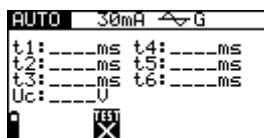

Figure 5.21: RCD autotest menu
Step 3 Follow the connection diagram shown in figure 5.21 to perform contact voltage measurement. Use the **Help** function if necessary.
Step 3 Follow the connection diagram shown in figure 5.21 (see the chapter 5.4.6 *Contact voltage*) to perform trip-out time measurement.
Step 3 Follow the connection diagram shown in figure 5.21 (see the chapter 5.4.6 *Contact voltage*) to perform trip-out current measurement. Use the **Help** function if necessary.
Step 3 Follow the connection diagram shown in figure 5.21 (see the chapter 5.4.6 *Contact voltage*) to perform the RCD autotest. Use the **Help** function if necessary.